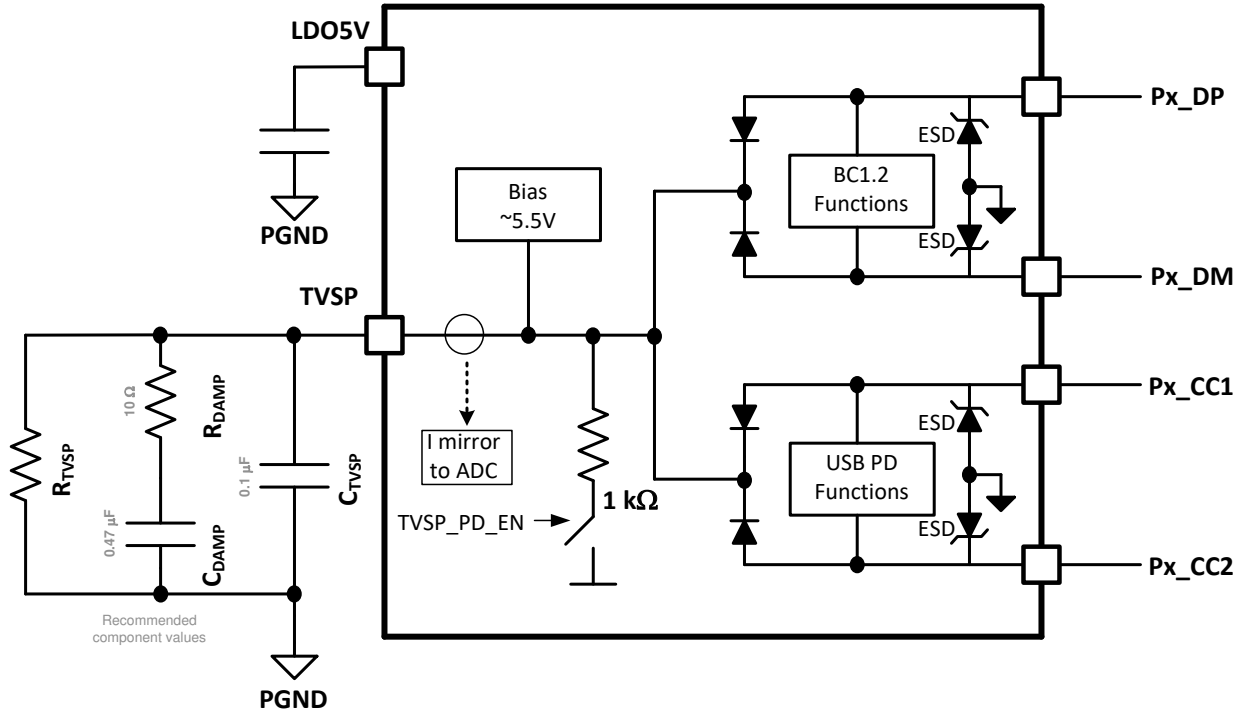

Figure 9-4. Basic TVSP Pin Connection
- **R_{TVSP} :** At power on, the resistance between the TVSP pin and PGND determines the boot method, USB PD port I²C addresses and I²C logic thresholds. Refer to Table 9-3. The most common configuration is shown in Figure 9-4 with R_{TVSP} open, corresponding to TVSP Index 0. During device initialization and boot, typically within 4 seconds after power on, V_{IN} must be above 7.6 V to ensure proper bias of the TVSP pin to 5.5 V. Once boot is complete the device can operate over the full V_{IN} range.